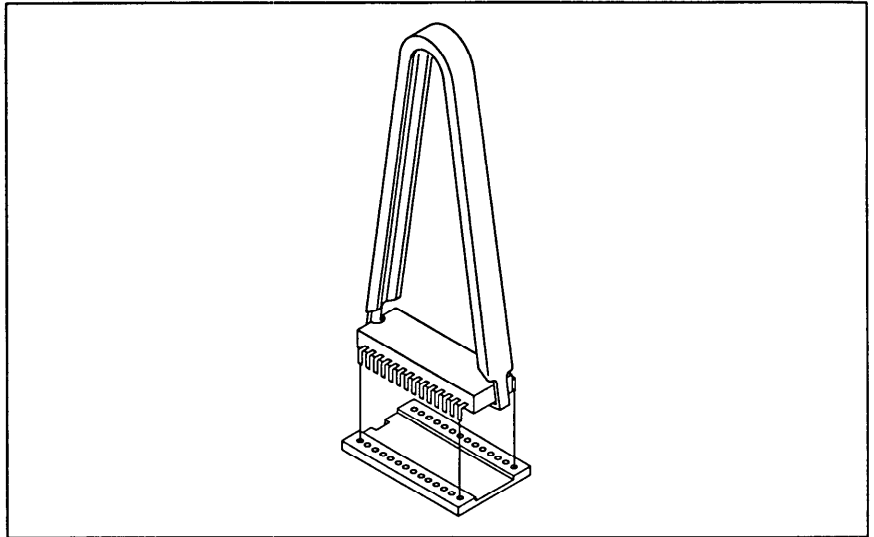

Figure 8. Grasping EPROM chip using extracting tool
- b. As shown in Figure 8, remove the EPROM by grasping it with the extraction tool. Pull gently from the board at a 90° angle.
- a. As shown in Figure 8, align the extraction tool above the EPROM and firmly grasp the ends of the chip.